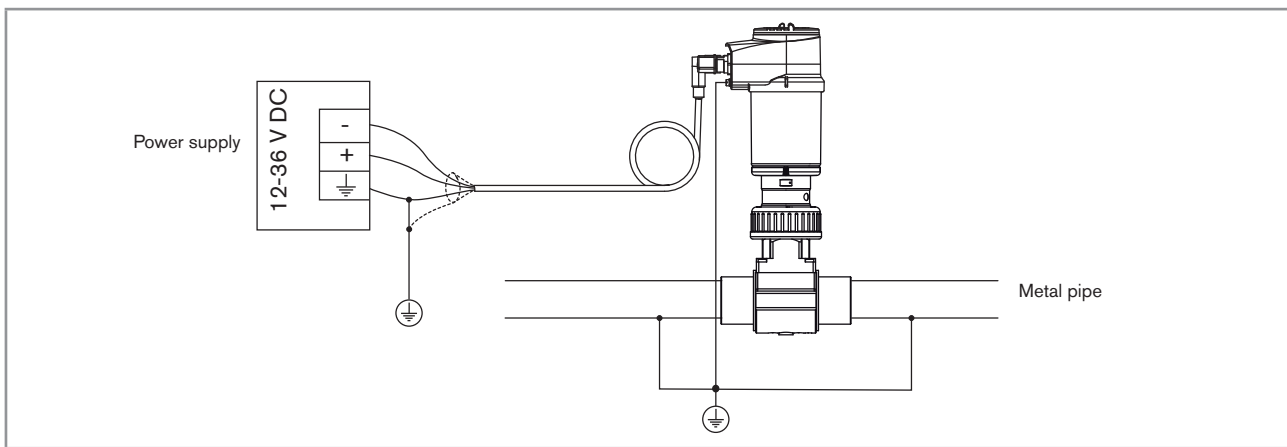
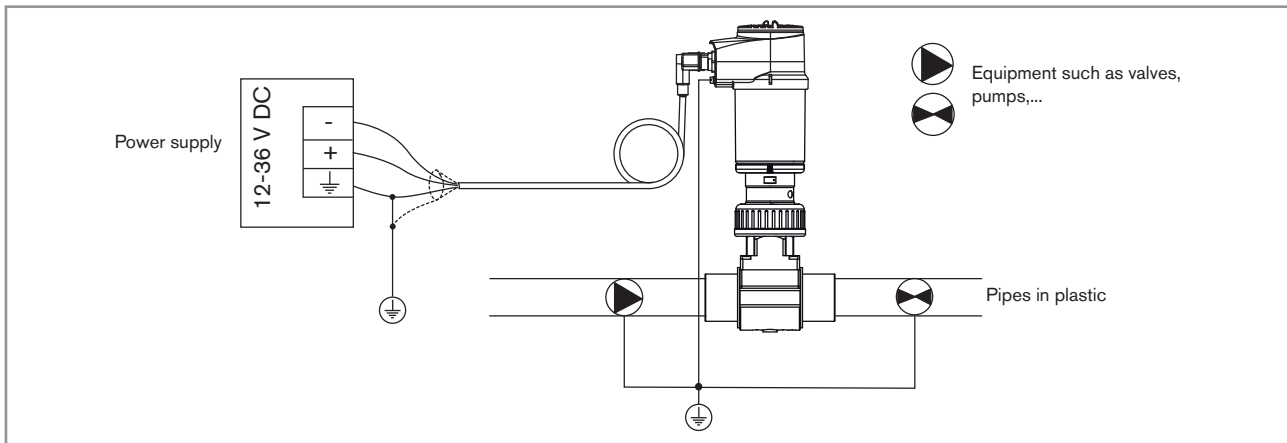

Fig. 13 : Equipotentiality skeleton diagram with pipes in metal
Fig. 14 : Equipotentiality skeleton diagram with pipes in plastic
- Observe faultless grounding of the shield of the power supply cable. Refer to Fig. 13 and Fig. 14.
- If the device is installed on plastic pipes, earth together the metallic equipment such as pumps or valves, that is as close as possible to the device. Refer to Fig. 14.